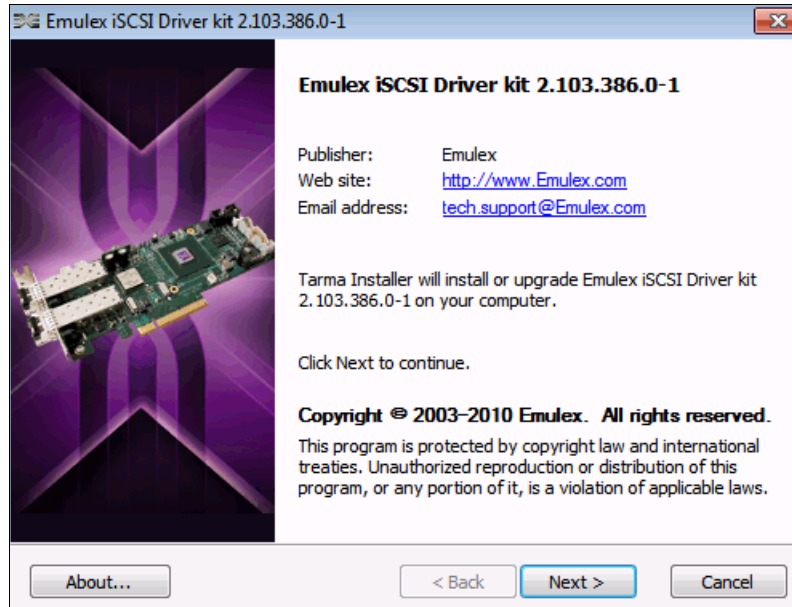

Figure 7-18 Emulex iSCSI Driver Kit installation
2. In the first window (Figure 7-18), click **Next**.